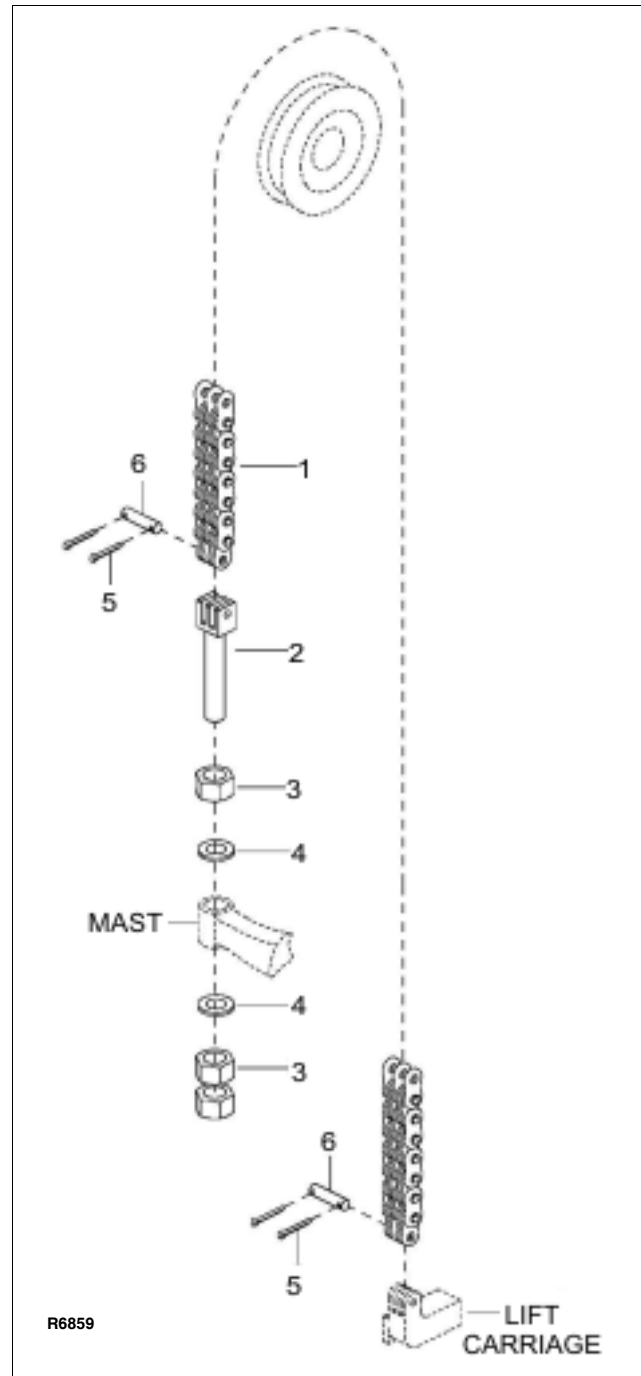

Figure 8-2 Chain Assembly (Telescopic)
3. Loosen jam nut (3, Figure 8-2), located the above either the frame or the lift carriage to allow for adjustment of middle jam nut.
4. Break the lower jam nut (3) free from the middle jam nut (3).
5. Take up slack in the lift chain with middle jam nut (3).
6. Align anchor (2) so the clevis pin (4) is parallel to the mast.
4. Remove one of the cotter pins (5, Figure 8-2) and pin (6) connecting chain (1) to the lift carriage.
5. Remove one of the cotter pins (5) and clevis pin (4) connecting chain (1) to adjusting screw (2) at the outer mast.
7. Position new chain on sheave (6).
8. Secure chain to adjusting screw (2, Figure 8-2) at the outer mast with pin (6) and cotter pins (5).
9. Connect the opposite end of chain to the lift carriage with pin (6) and cotter pins (5).